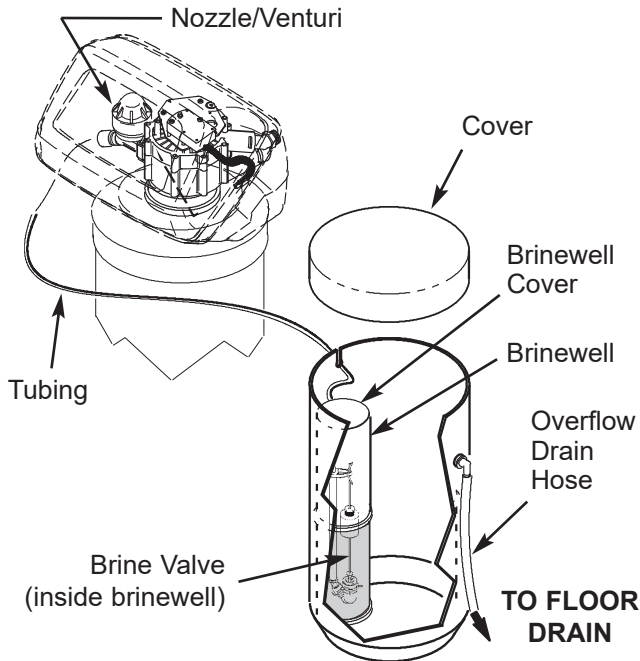

FIG. 10
- a. Route the tubing attached to the brine valve assembly out of the potassium permanganate feeder tank (See Fig. 10). Use the slots in both the tank and brinewell to hold tubing in place.